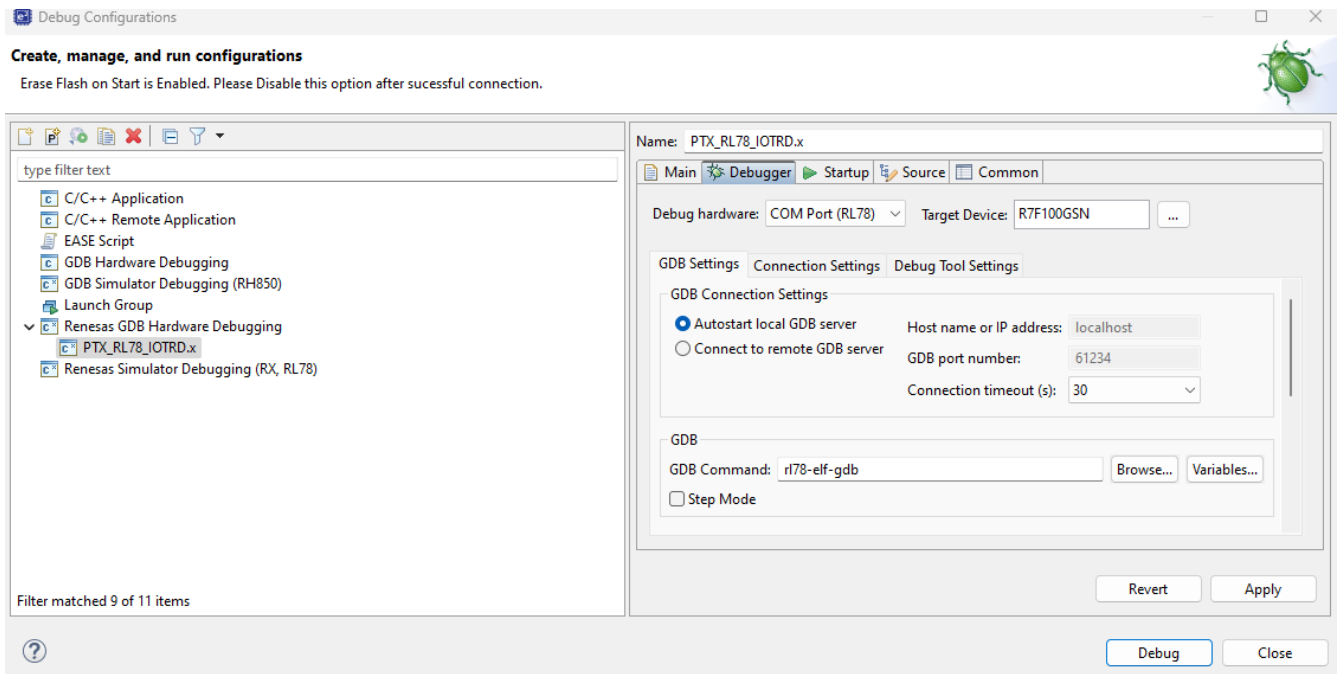

Figure 6. Debug Configurations
- Figure 6. Debug Configurations5
To configure the debugger, navigate to the *Project Explorer* tab, right-click on the project > **Debug As** > **Debug Configurations**. The preconfigured **PTX_RL78_IOTRD.x** settings are available for debugging the Renesas GDB Hardware (see Figure 6).